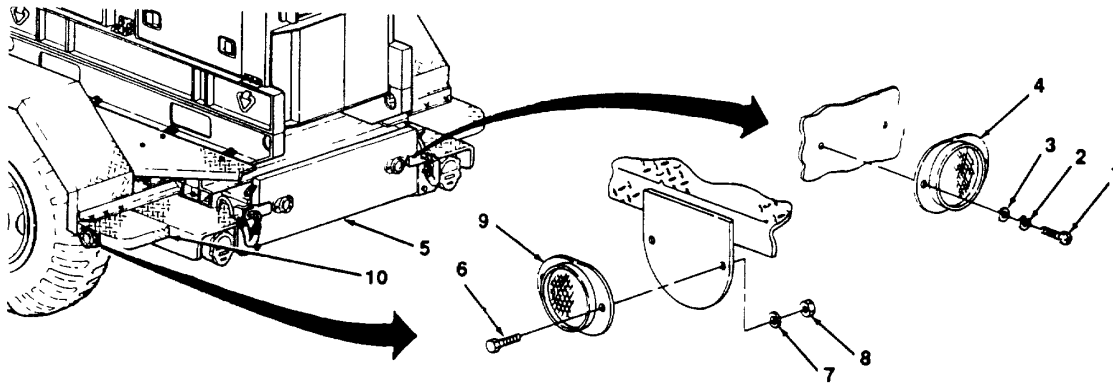

Figure 4-22. Reflector replacement.
4-33. Reflector Replacement. (See figure 4-22). One reflector is mounted to the side of each rear step, and two reflectors are mounted to the underside of the tailgate (visible when tailgate is raised).
- (1) Remove two screws (1, figure 4-22), two flat washers (2) and two lockwashers (3) and remove reflector (4) from tailgate (5).
- (2) Remove two screws (6), two flat washers (7) and two self-locking nuts (8) and remove reflector (9) from rear step (10).